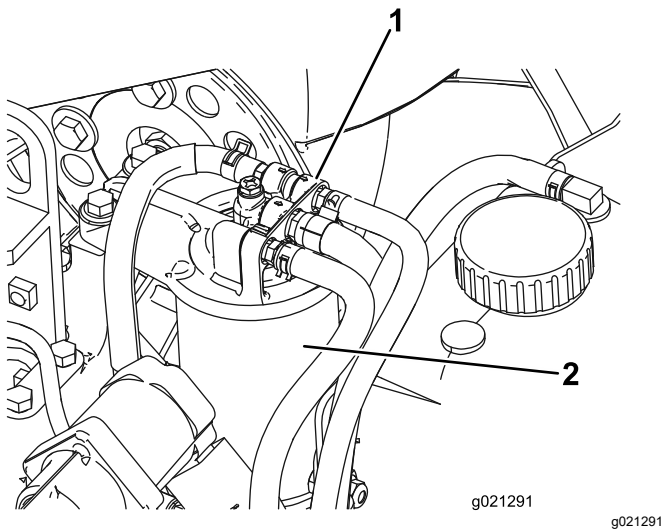

Figure 63
1. Clean the area around the fuel-filter head (Figure 63).
2. Remove the filter and clean the filter head mounting surface (Figure 63).